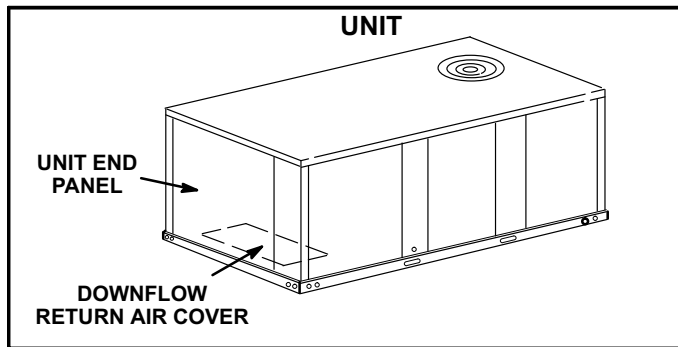

FIGURE 8
- 1- Remove unit end panel. See figure 8.
- 2- Install the downflow return air cover in horizontal airflow applications. Secure with #10 sheet metal screws provided in kit. See figure 8.